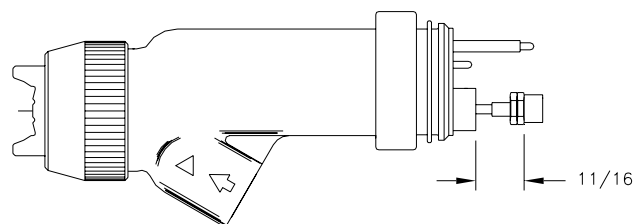

Figure 13: Trigger Adjustment Nut Dimension
18. Adjust the needle shaft spring retainer until the rear of the hexagon is 11/16-inch from the rear surface of the barrel packing chamber (refer to Figure 13).